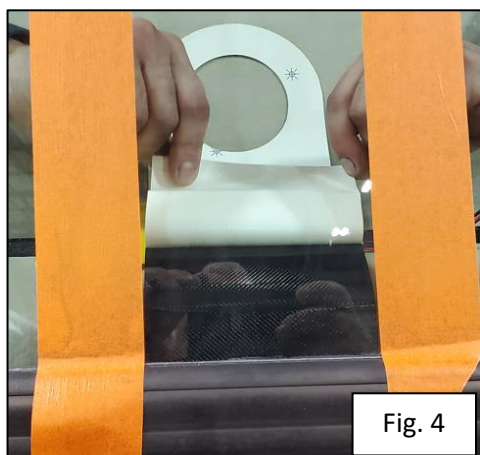

Fig. 4
- A. Starting at the bottom of the decal, remove about 2 inches of the decal liner and align the vinyl graphic to the masking tape on the exterior of the window. (Figure 4)